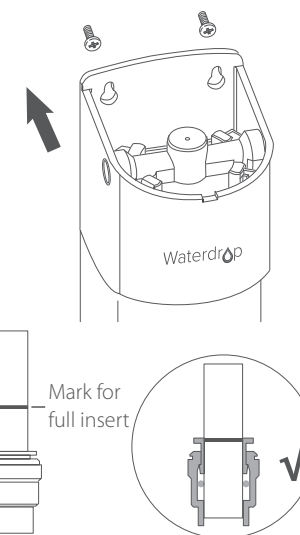

Figure 1
3. Shut off the water supply and remove the faucet hose. (**Figure 1**)